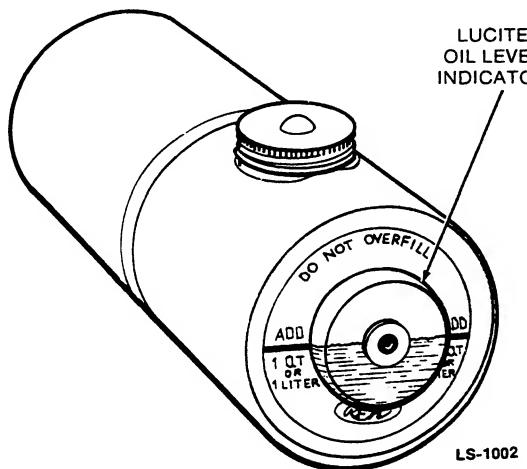

FIGURE 6. OIL RESERVOIR
**Filling The Extended Run Oil System:** Fill the engine crankcase as described in the previous sections. Fill the oil reservoir tank using the same grade and weight of oil used in the crankcase. The capacity of the tank is two quarts. Refill the tank when the oil level drops below the line on the lucite oil level indicator (see Figure 6). Do NOT add oil to the reservoir before the oil level is below the indicator. Whenever the engine crankcase oil is drained during normal maintenance, the crankcase must be refilled manually.